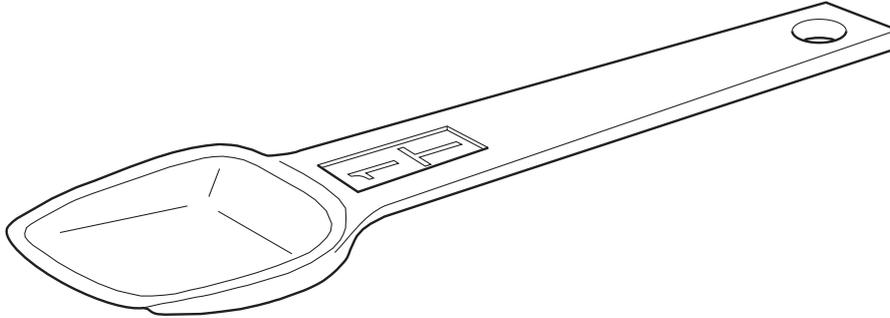

Fig. 3
- 7 Fig. 3 shows a plastic measuring spoon used when baking.